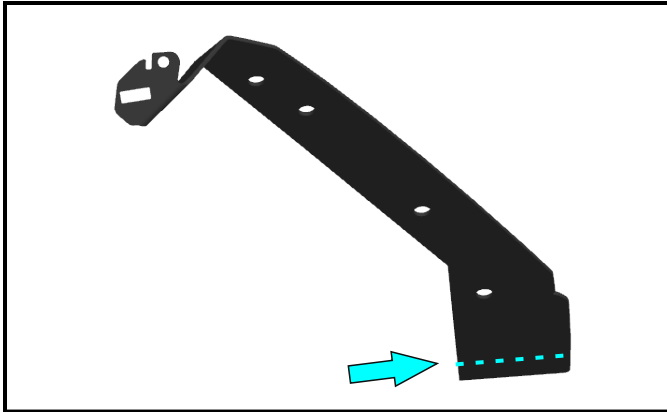

Fig.36
36. If your vehicle has EGR fender flares, cut grille brackets (items 1, 5) following marked line (fig. 36). Cover all trimming points using corrosion resistance coating.